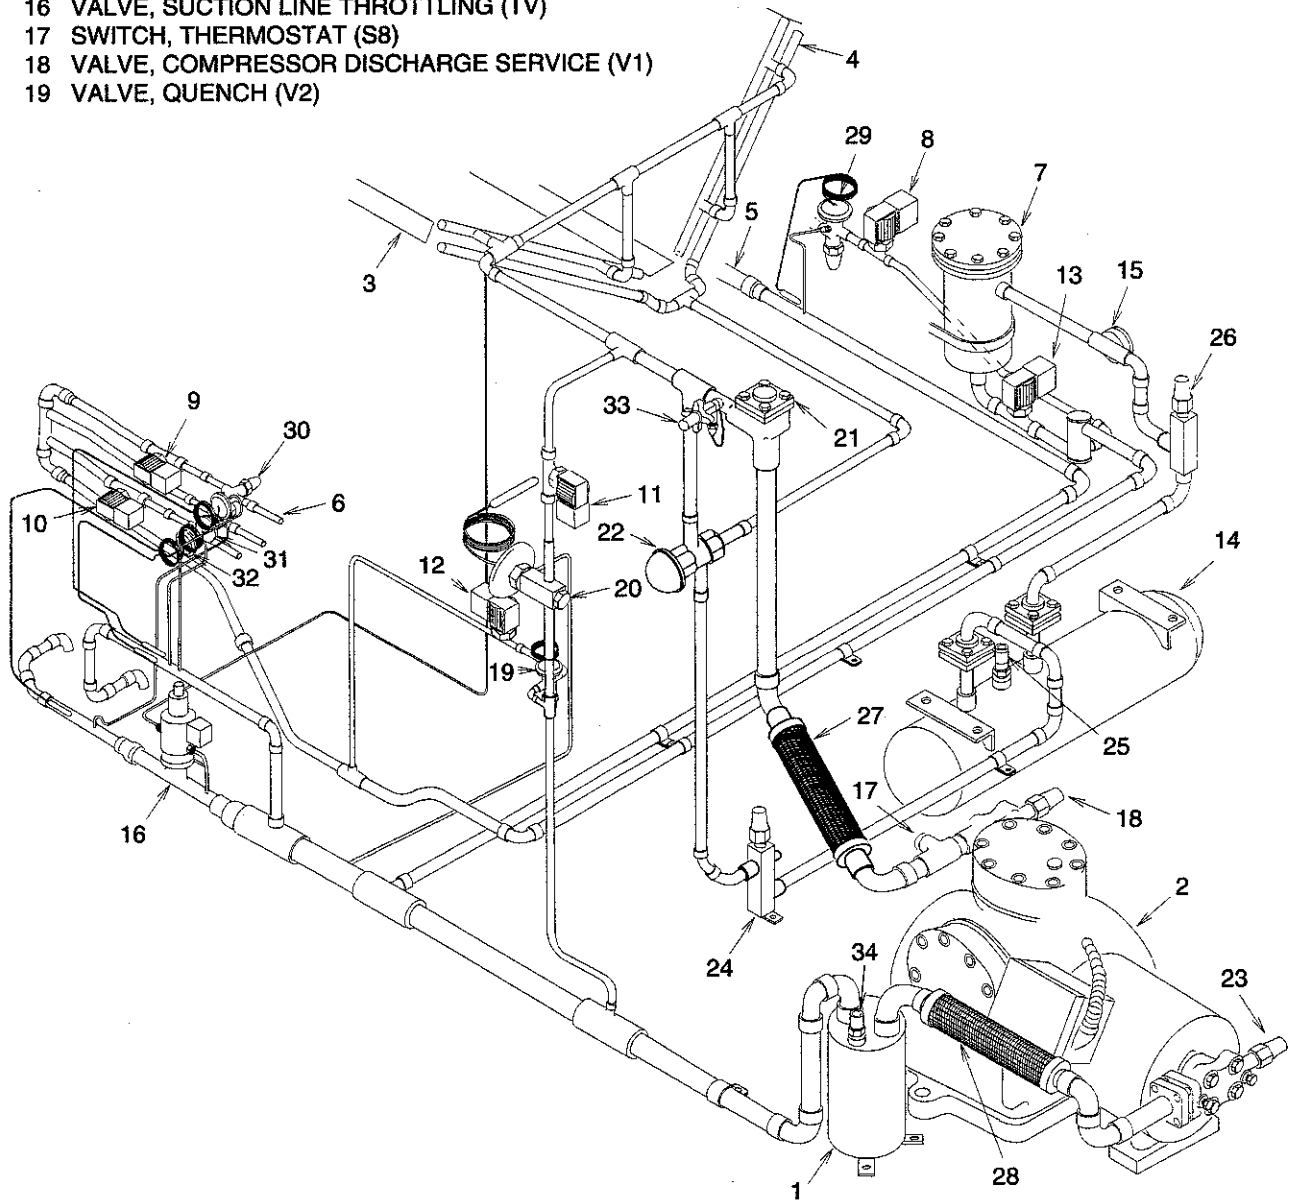

Figure 5-3. Refrigeration System
a. If sufficient pressure is not present in the system to accomplish an adequate leak test, isolate the compressor by front seating (clockwise) the two service valves (18 and 23, fig. 5-3) and add dry nitrogen at the receiver charging valve to increase the system pressure to 30 psig, then conduct the leak test.
5-26. REFRIGERANT PUMP DOWN. The receiver can hold the entire refrigerant charge. To pump refrigerant into the receiver before making repairs or for other purposes, proceed as follows. (See fig. 5-3.)
d. Check suction pressure gage after a few minutes wait. If the pressure has risen to 5 psig or more, rejump the contacts and repeat step b. If the pressure rise is to less than 5 psig, pump down is satisfactory. Stop the compressor and quickly close the compressor discharge service valve (18, fig. 5-3). Then close the suction service valve (23) and the receiver inlet service valve (24). This will trap practically all of the refrigerant in the receiver. Allow slight pressure in the lines to remain while the system is opened to prevent air and moisture from being drawn in. Turn off main circuit breaker and tag with warning; Compressor service valves have been closed, open prior to operation.
During operation when the ambient temperature is below 80°F, (26.7°C), the head pressure regulator valve (22, fig. 5-3) will back up refrigerant in the condenser to hold the discharge pressure at approximately 110 psig.
(Refer to fig. 5-3.)
b. Back seat (counterclockwise), then turn back in about two turns, the compressor discharge service valve (18, fig. 5-3), the suction service valve (23), and the receiver inlet valve (24), in that order. Then slowly open the receiver outlet service valve (26) and allow liquid to enter the system. Start unit. Pressure in the system should now cause the low pressure switch to reset enabling the compressor to start. Reinstall all valve caps.
c. Check the oil level in the crankcase and the sightglass (15) in the liquid line to see that the system has sufficient oil and refrigerant.
g. Open receiver service valves (2 and 4, fig. 5-3) to release the refrigerant into the system.